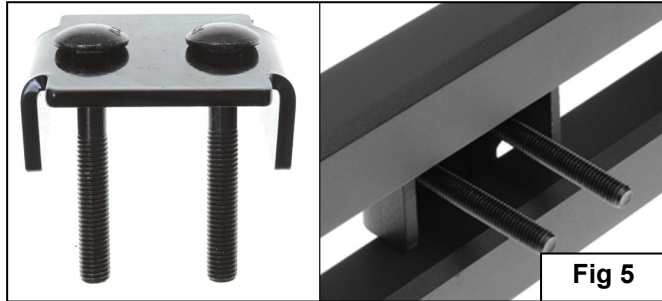
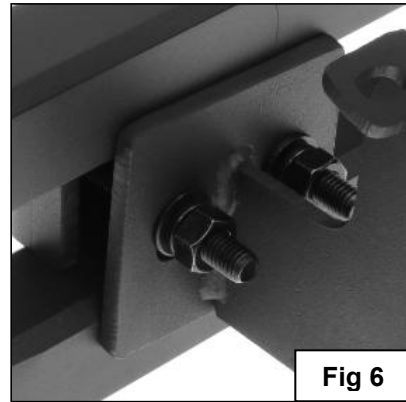

Fig 5
Fig 6
6. Select the Driver Side Bar. Slip (2) M10X1.5-75 Carriage Bolts into each 2-Hole Support Brackets ,and insert the 2-Hole support bracket into the Driver Side Bar.**(Fig 5)**. Carefully position the Bar onto the (3) Mounting Brackets. **IMPORTANT: Do not slide the Bar on the Brackets or damage to the finish may result. Attach the Driver Side Bar to the Mounting Brackets with (2) M10 Hex Nuts,(2)M10 lock washers and (2)M10 flat washers, (Fig 6).** Do not tighten hardware.